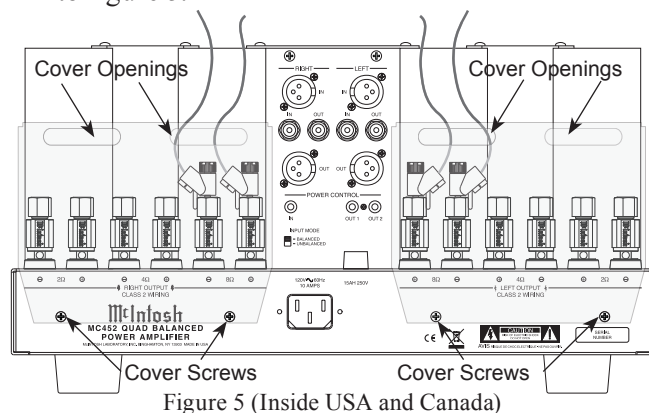

Figure 5 (Inside USA and Canada)
7. Locate the Terminal Connections Covers from the inside of the MC452 shipping carton. Insert the just prepared Loudspeaker hookup cables thru the cover openings, one cover for each channel. Refer to figure 5.
*Note: The illustration in figure 5 is connections for 8Ω (ohms) Loudspeakers.*
11. Attach the Terminal Connections Covers to the MC452 Rear Panel with the previously removed Screws. Refer to figure 5.